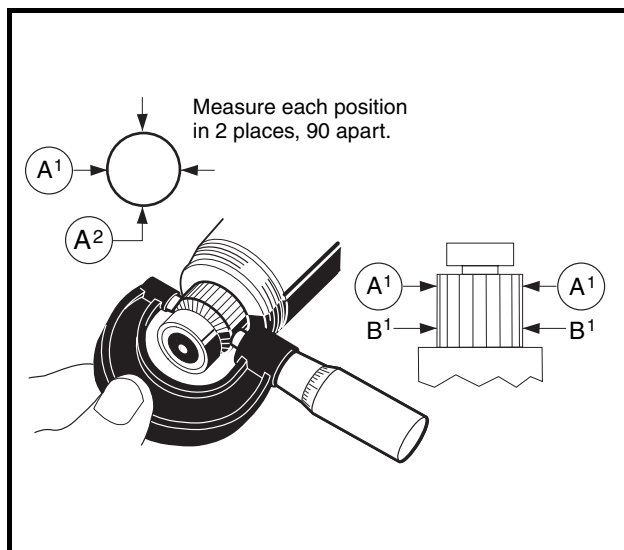

Figure 12-11 Inspect Commutator
2. Use a micrometer and measure the outside diameter at four points: two points 90° to each other to the outside end of the commutator (A¹ and A²), and two points 90° to each other to the inside of the commutator (B¹ and B²). If the commutator diameter is less than 1.535 inches (39 mm) at any of the four locations, replace the armature assembly and bearings (**Figure 12-11, Page 12-7**).